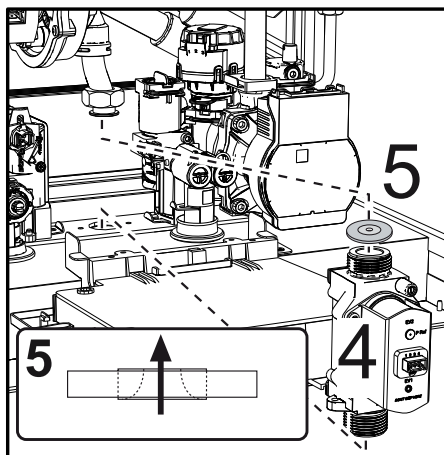

fig. 44
- Remove the gas valve "4" and the gas diaphragm "5" (fig. 44).